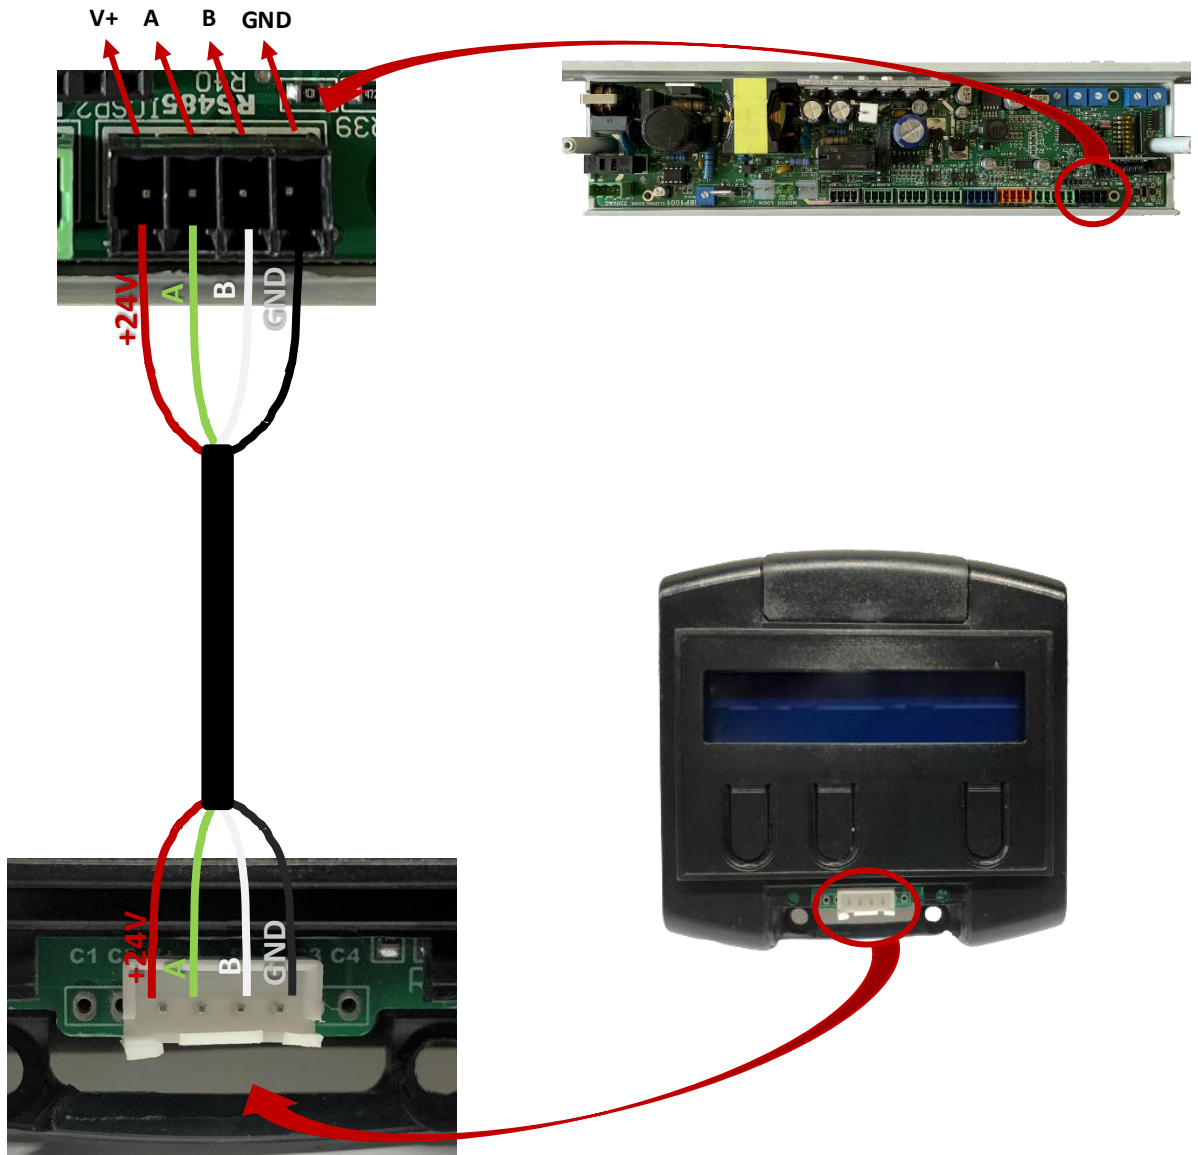

Figure 16: The position of the Digital Position Switch Input on the circuit board, its close-up view, and the connection method..
15) Digital Position Switch Input: Digital Position Switch Input is the socket where the digital position switch is connected. The appearance of the socket and the input types are indicated in Figure 16.